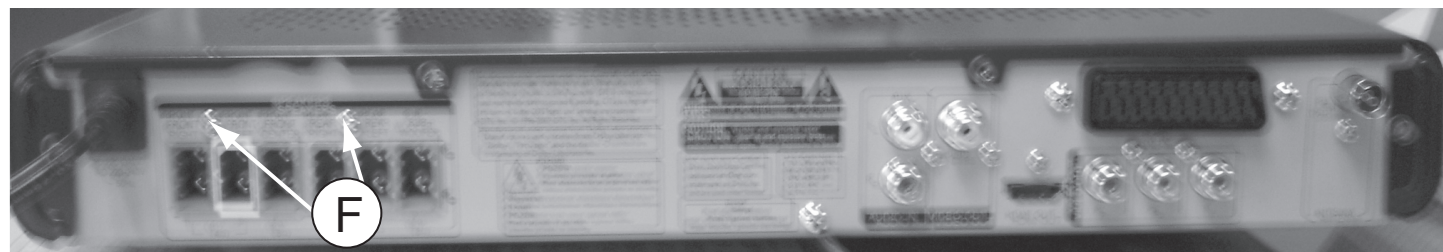

Figure 10
- 2 screws “F” at the back panel as shown in figure 10.